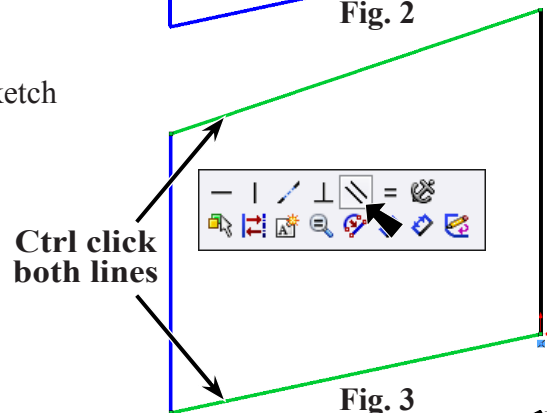

Fig. 3
Step 6. **Ctrl click top and bottom lines** to select both. Release Ctrl key and click **Make Parallel**  on the Context toolbar, **Fig. 3**.
Step 7. Click **Smart Dimension**  (S) on the Sketch toolbar.